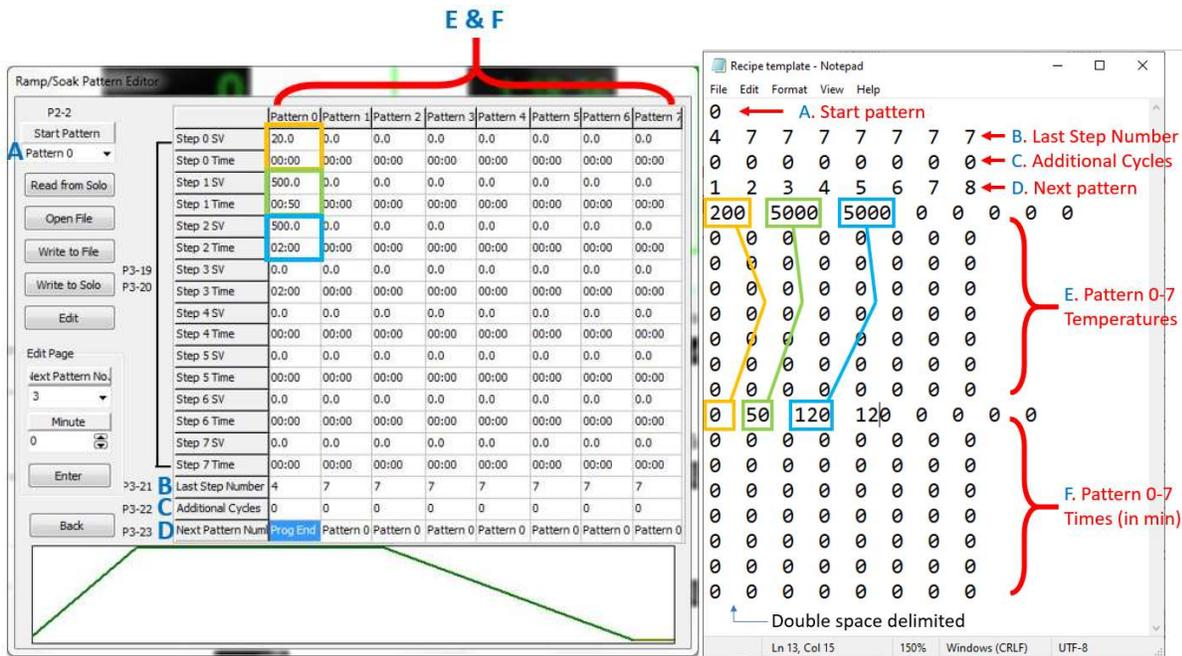

Figure 9. Recipe text file.
- c. Component descriptions (Figure 9):